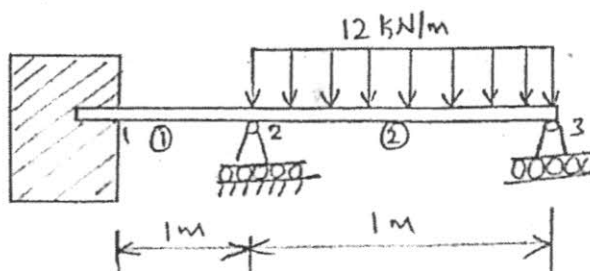

Figure Q8
8. Determine the vertical deflection and slopes, at point 2 and 3, using beam elements for the structure as shown in Figure Q8. Also determine the deflection at the center of the portion of the beam carrying UDL.